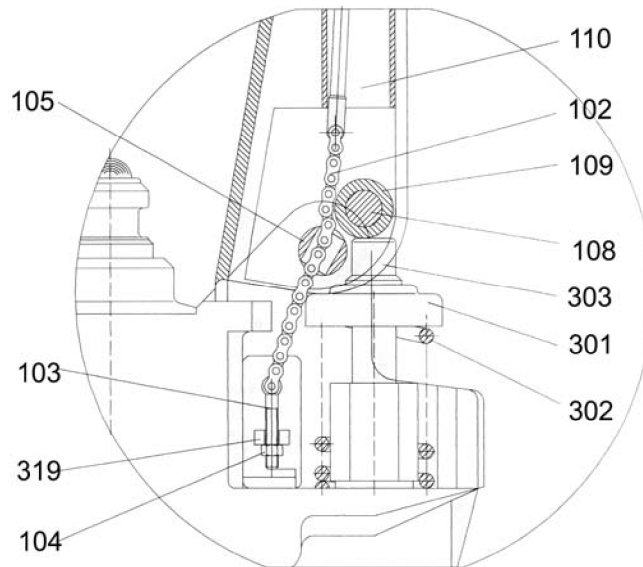

Fig. 3
**2.2** Let control handle(117) to the '**LOWER**' position, then pass the adjusting nut(104), adjusting bolt(103) and chain(102) through the hole of axle(105) with your hand (See fig. 3).